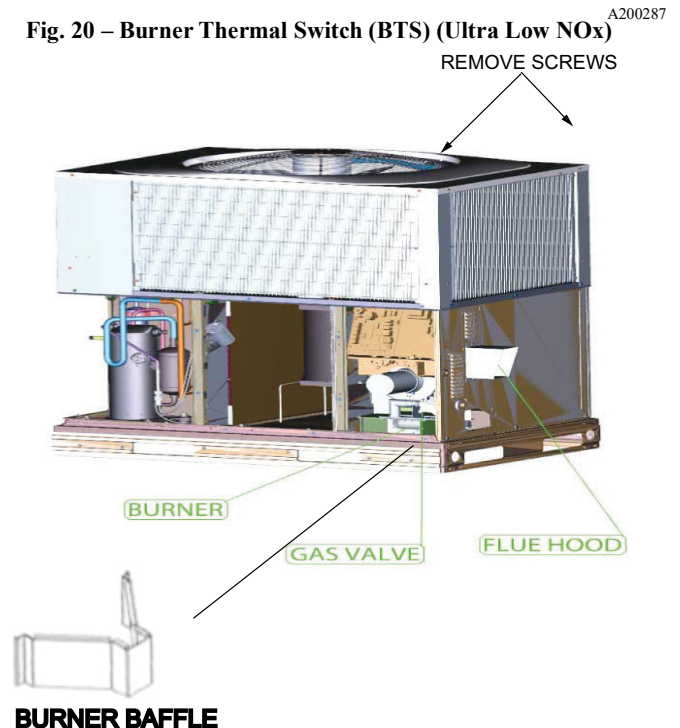

Fig. 21 – Blower Housing, Flue Collector Box and Burner Heat Exchanger Assembly (Ultra Low NOx)
- Remove the 11 screws holding the flue collector box cover (See Fig. 21) to the heat exchanger assembly. Inspect the heat exchangers.
Unit is equipped with a direct spark ignition 100 percent lockout system. Ignition module (IGC) is located in the control box (See Fig. 21). Module contains a self-diagnostic LED. During servicing, refer to label diagram or Table 6 in these instructions for LED interpretation.
Ultra Low NOx Burner Baffle Inspection/Cleaning (See Fig. 21.)